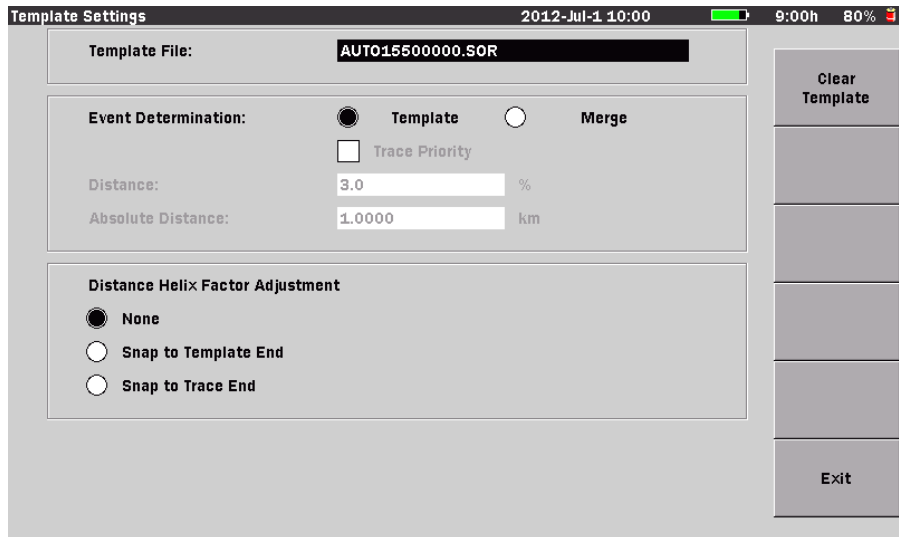

Figure 6-16: Template Setting
1. With the OTDR (Construction) Setup screen (See Figure 6-16 on page 6-40) displayed press **Template (f4)**. The Template Settings screen appears.